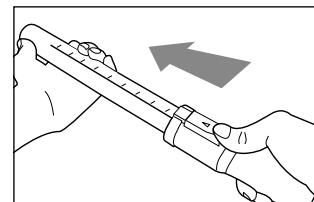

Fig. 4
Once the attachment has been fitted, it is possible to extend the telescopic tube using the lever (FIG. 4) to move it to the required length. Release the lever to stop the tube in the required position.
- Push the slider device (I) forwards and pull the bottom section of the tube out to the required length (Fig. 4). To shorten the tube, push it back in the opposite direction.